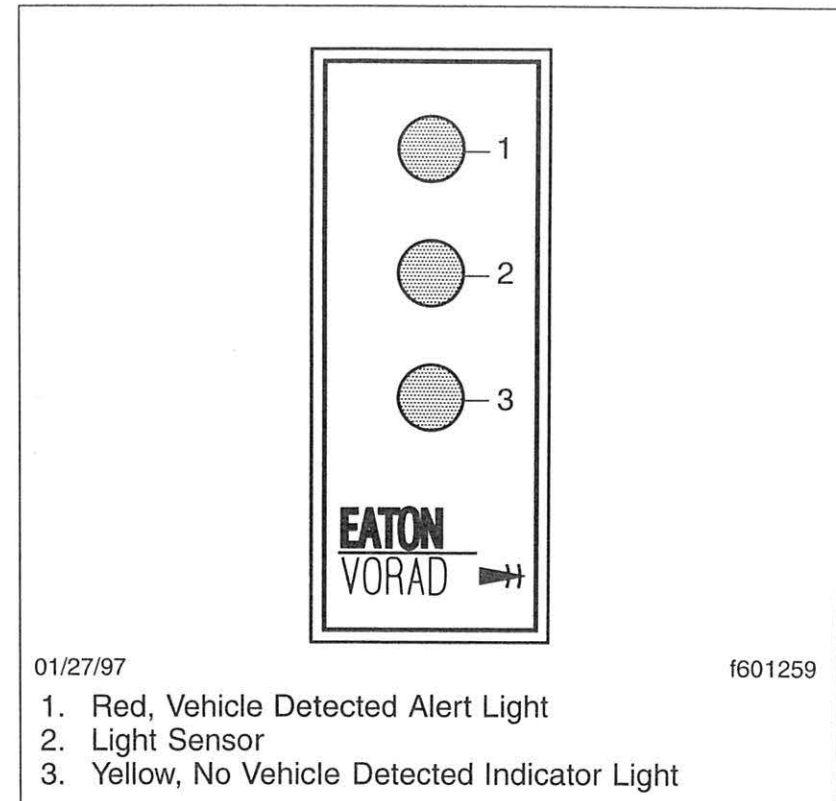

Fig. 2.45, Side Sensor Display
14. A failure of the side sensor will cause the driver display unit "FAIL" light to illuminate continuously (**Fig. 2.44**). A continuous red light on the side sensor display (**Fig. 2.45**) will also appear.
Side Sensor Display (Fig. 2.45)